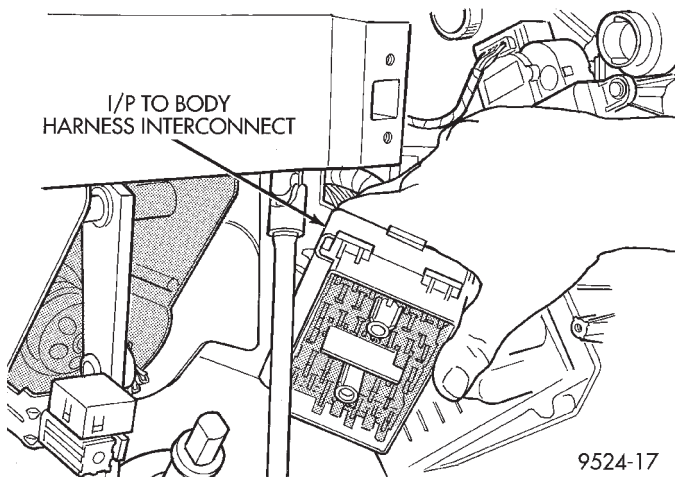

Fig. 32 Interconnect And Bracket
(5) Remove I/P to body harness interconnect and bracket (Fig. 32).